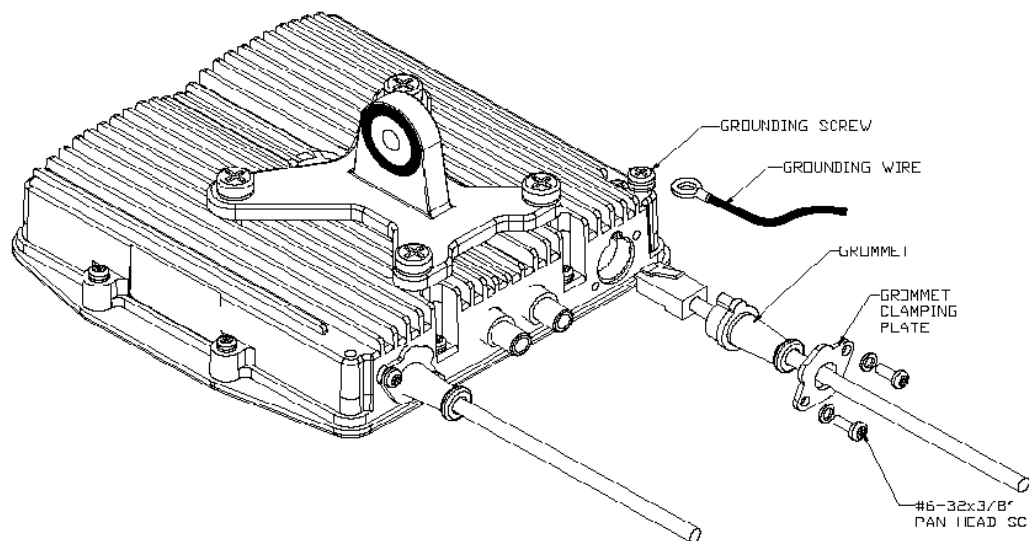
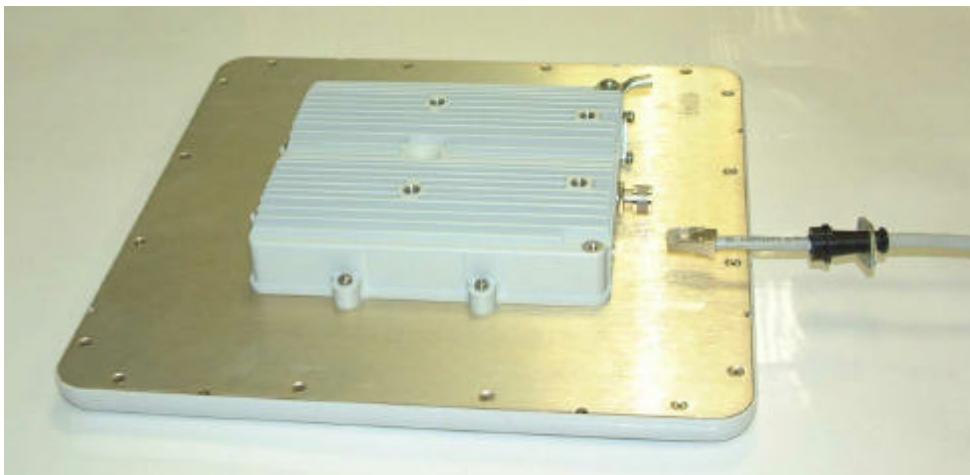

Figure 2-7: Cable assembly to Outdoor Unit
Figure 2-8: Cable insertion to Outdoor Unit.
- Insert the RJ45 to the Outdoor Unit. See Figure 2-7 and Figure 2-8.